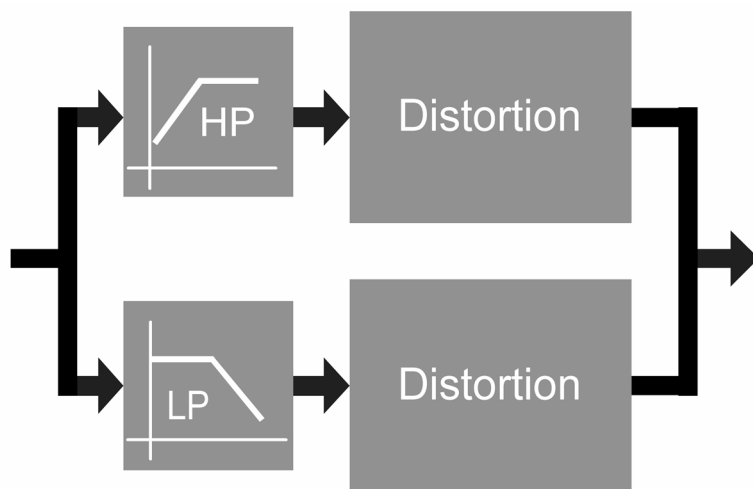

Fig.8.4.3 2-band-distortion
**front: (6) [low/high]**
The distortion unit of 'ebbe und flut' provides two parallel sections, working in the way described above. (fig. 8.4.3). One section works in the lower frequency range, while the second covers the higher range. It is a 2-band distortion, not unequal to a speakersystem. The **[low/high]**-switch (6) selects the crossover frequency.